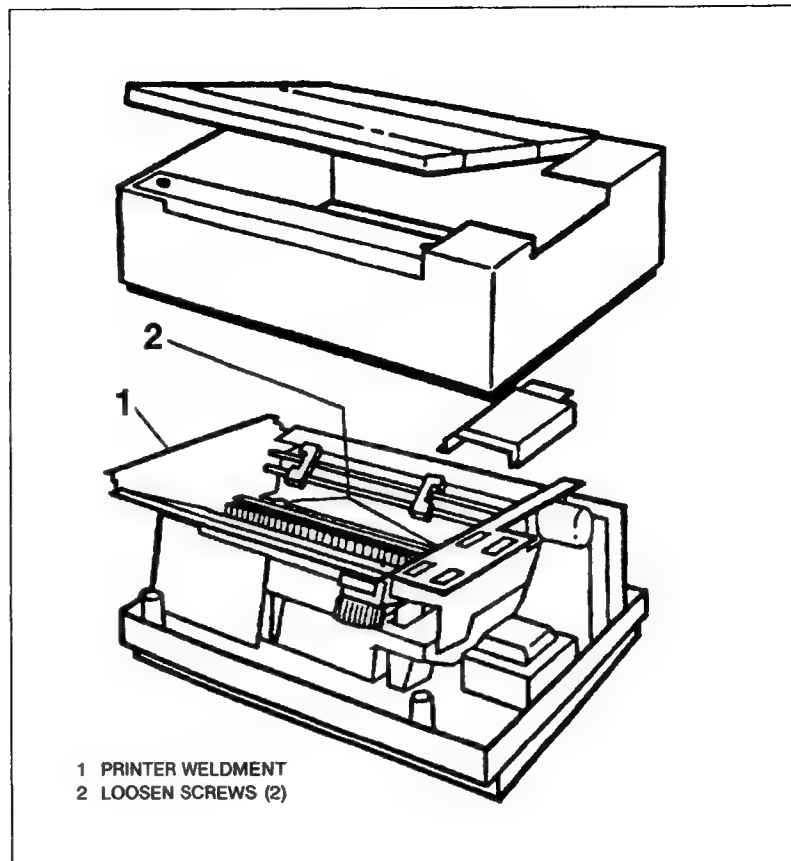

Figure 6-4. Printer Weldment
- b. Loosen (do not remove) the two pozidrive screws located inside the printer weldment below the paper feed tractors (see Figure 6-4, item 2).